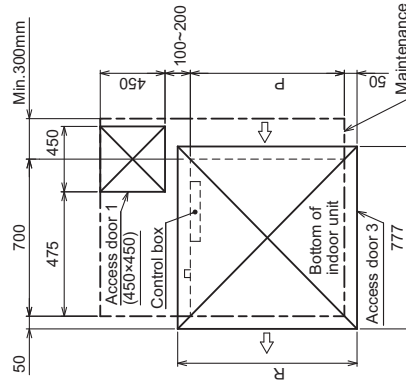

Fig.4 (Viewed from the direction of the arrow B)
- Create access door 1 diagonally below the control box and access door 3 below the unit as shown in Fig.4.
- Create access door 1 diagonally below the control box and access door 3 below the unit as shown in Fig. 4.